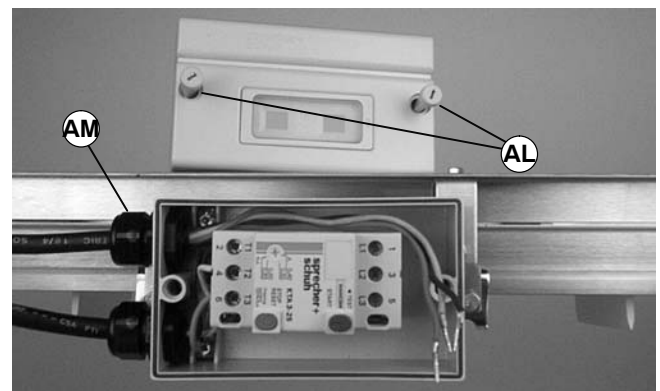

Figure 18
1. Loosen cover screws (AL of Figure 18). Remove cover.
5. Install cover and tighten screws (AL of Figure 18).